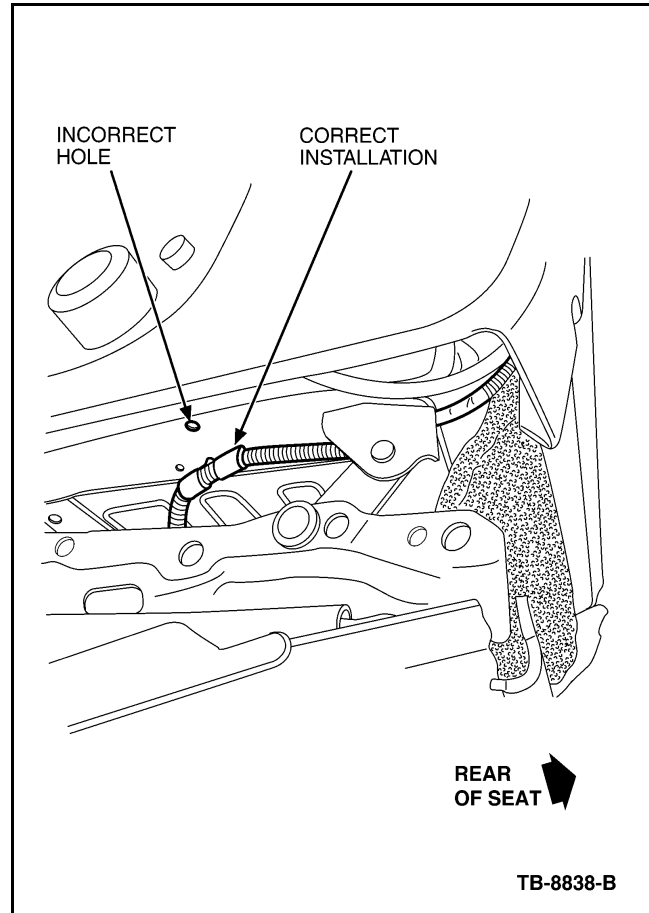

Figure 3 - Article 09-8-7
3. If wiring is damaged, repair the wire using the solder splicing procedure shown in the Wiring Diagram (WD), Section 5-5. It may be necessary to remove the seat cushion side shield to perform a harness repair.
4. Install the side airbag wire harness to the seat frame. (Figure 3)